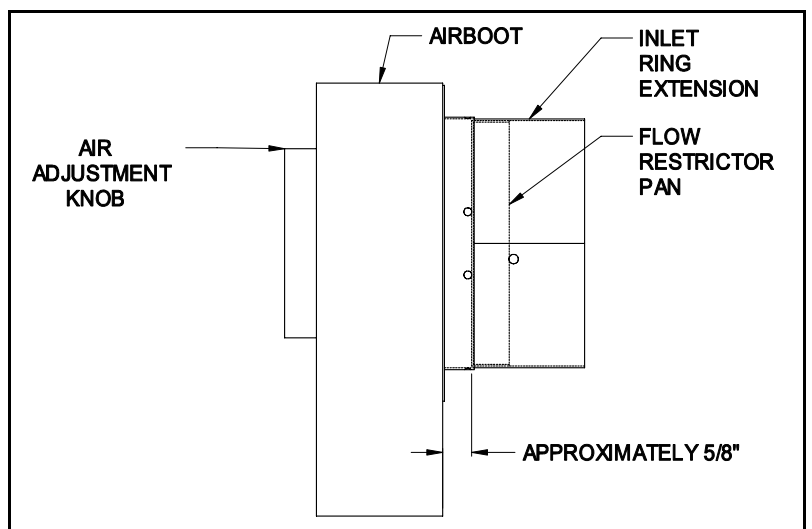
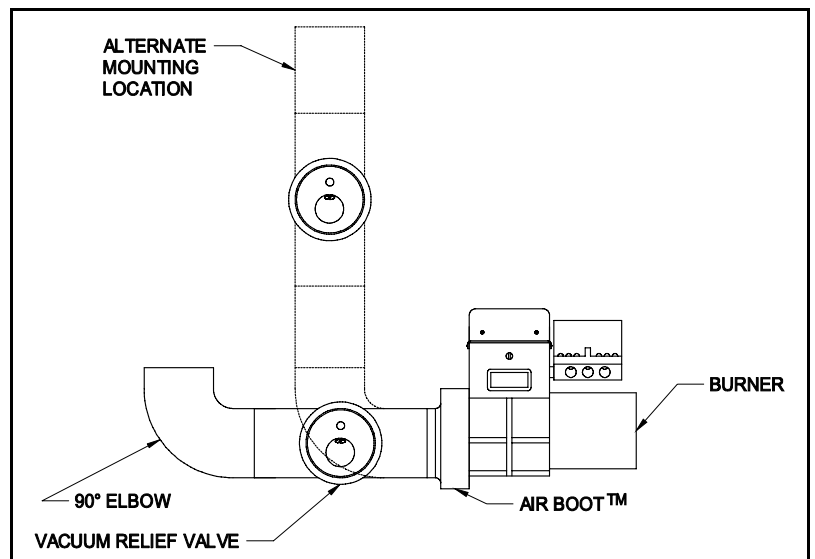

Figure 5
Figure 6
- b. Push the pan in all the way, approximately 5/8" from the air adjustment blades. (See Figure 5) Mount VRV tee assembly or 90° elbow onto the Air Boot™ intake. Fasten using three (3) sheet metal screws spaced 120° apart on all joints. (See Figure 6)